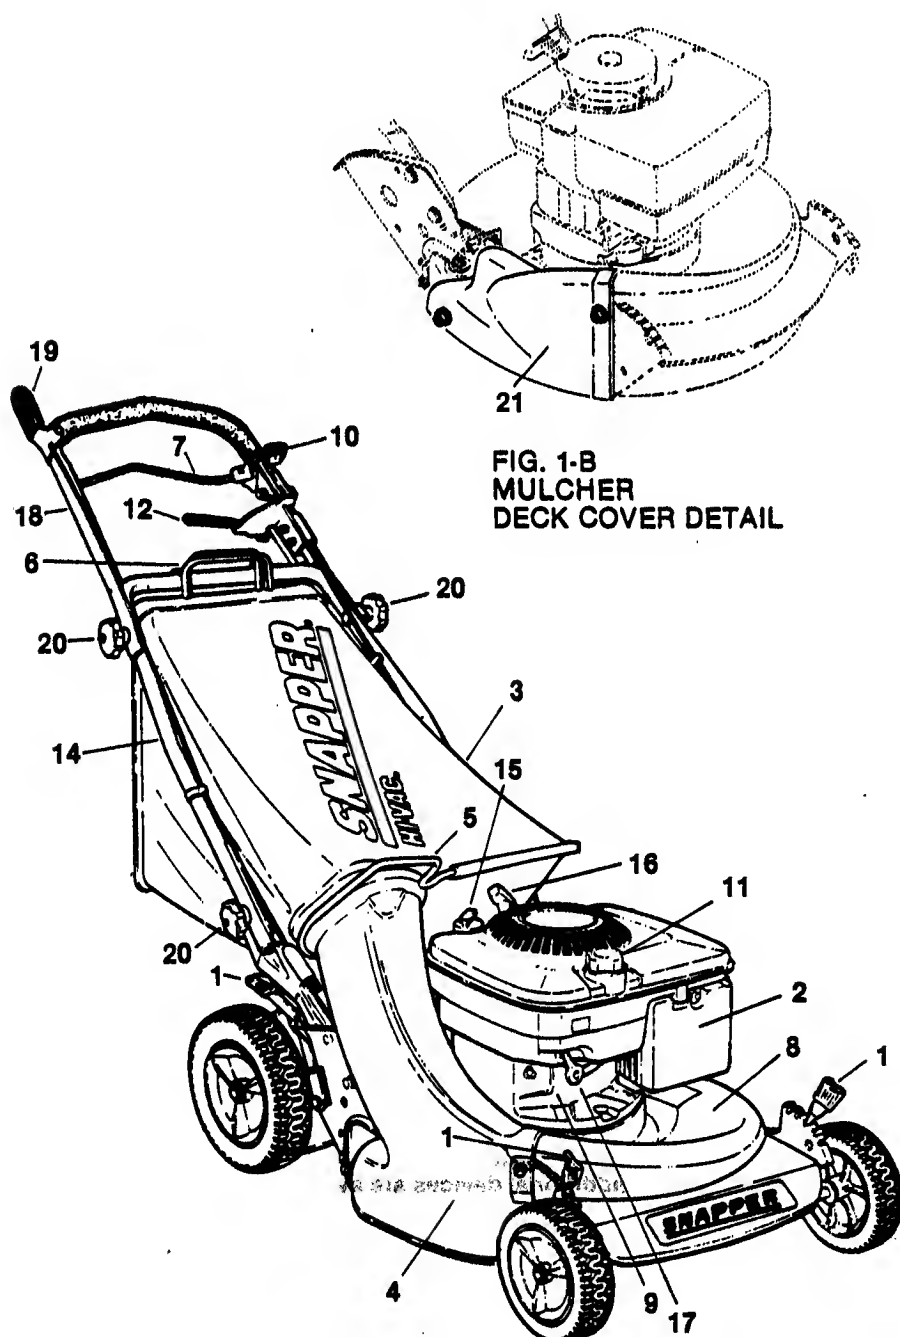

FIG. 1-ROPE START
The engine (and blade) is stopped by releasing the **BLADE CONTROL** (7) or by pulling the **ENGINE CONTROL** lever (10) rearward to the **STOP** position. On self-propelled models, releasing the **WHEEL DRIVE** control (19) stops the forward movement of the mower. Refer to FIG. 1 for locations of controls.